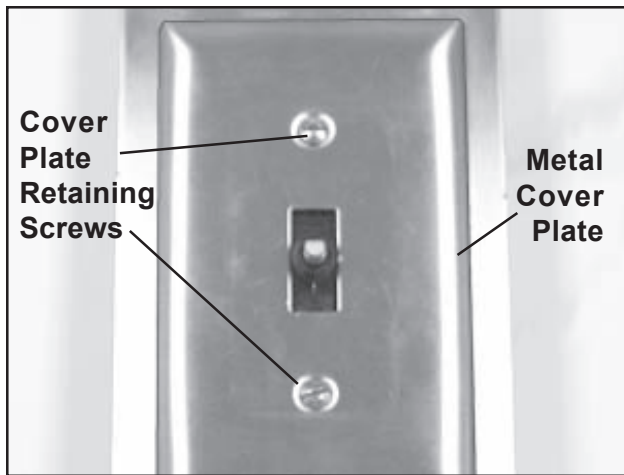

Figure 40. 15-minute Timer - Removing the Metal Cover Plate
7. With a small flat-blade screwdriver, remove the two cover plate retaining screws (Figure 40).
2. Place the metal cover plate over the timer body and secure with the two retaining screws (Figure 40).